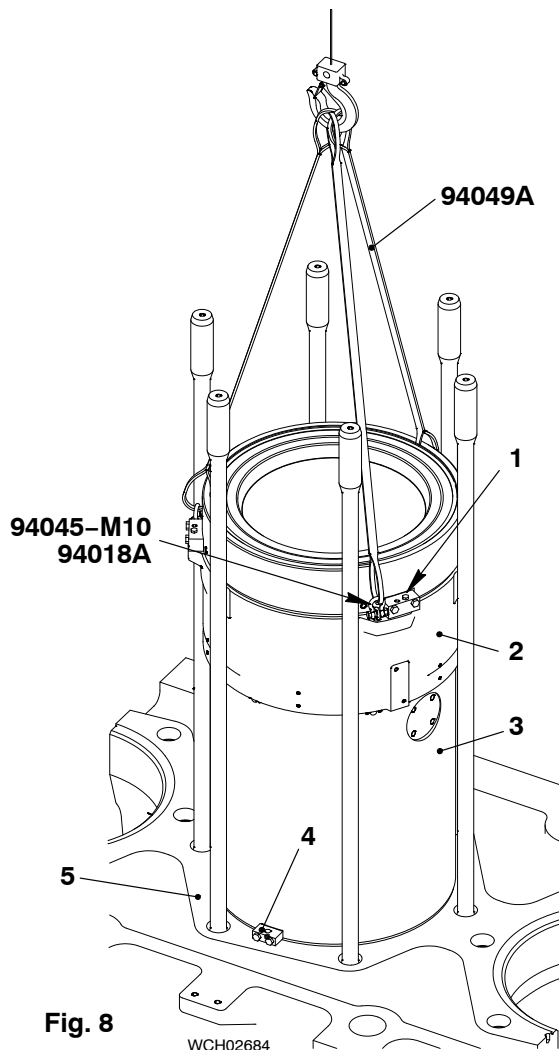

Fig. 8
- 2) Clean the seat on the the cylinder liner (3) and on the cylinder block (5).
- 4) Attach the three eye bolts (94045 M10) to the bottom water guide jacket (2, Fig. 8).
- 6) Put the water guide jacket (2) on the three wooden blocks on top of the cylinder block (5) to make room (approximately 100 mm) for the installation of the cylinder holder (4) afterwards.